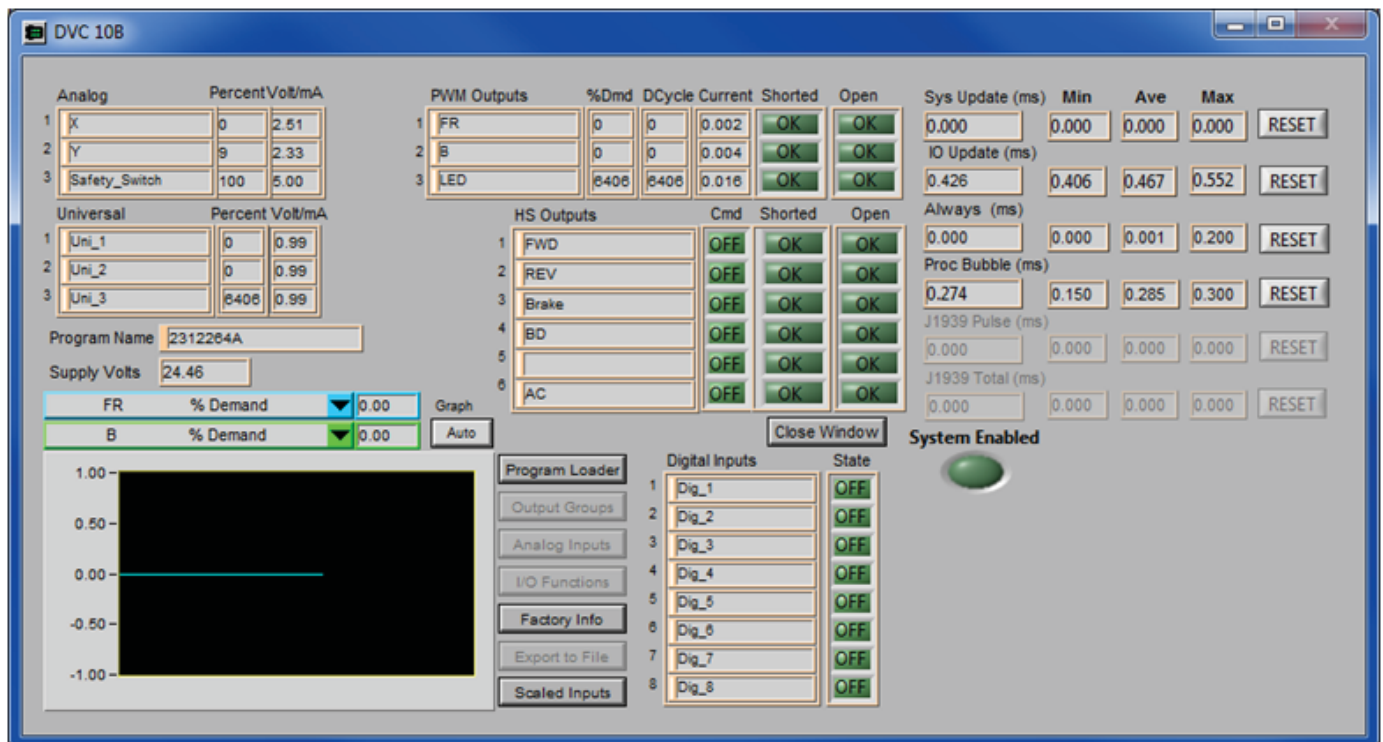

Figure 3-25 DVC10B Monitor Window
5. Select the 'DVC10B Master Button'. This will launch the monitor window (see Figure 3-25).